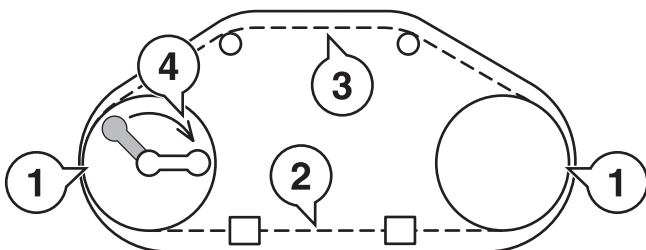

Fig.8
(3)Detach saw blade in the reverse order of [Fig.8].
(4)Install new saw blade in order of [Fig.8].
(7)Install saw blade in order of [Fig.8].
(8)Install saw blade referring to 1-1)Replacement the Saw Blade (5)-(7).
(9)Confirm the oblique cutting according to the procedure (1)-(4).